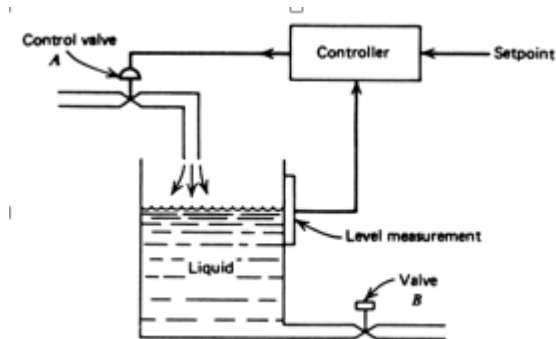

Fig. 3A
- 3A.** Consider the proportional-mode level-control system in Fig. 3A. Valve A is linear, with a flow scale factor of 10 m³/h per percent controller output. The controller output is nominally 50% with a constant of K_p = 10% per %. A load change occurs when flow through valve B changes from 500 m³/h to 600 m³/h. Calculate the new controller output and off-set error. **(03)**